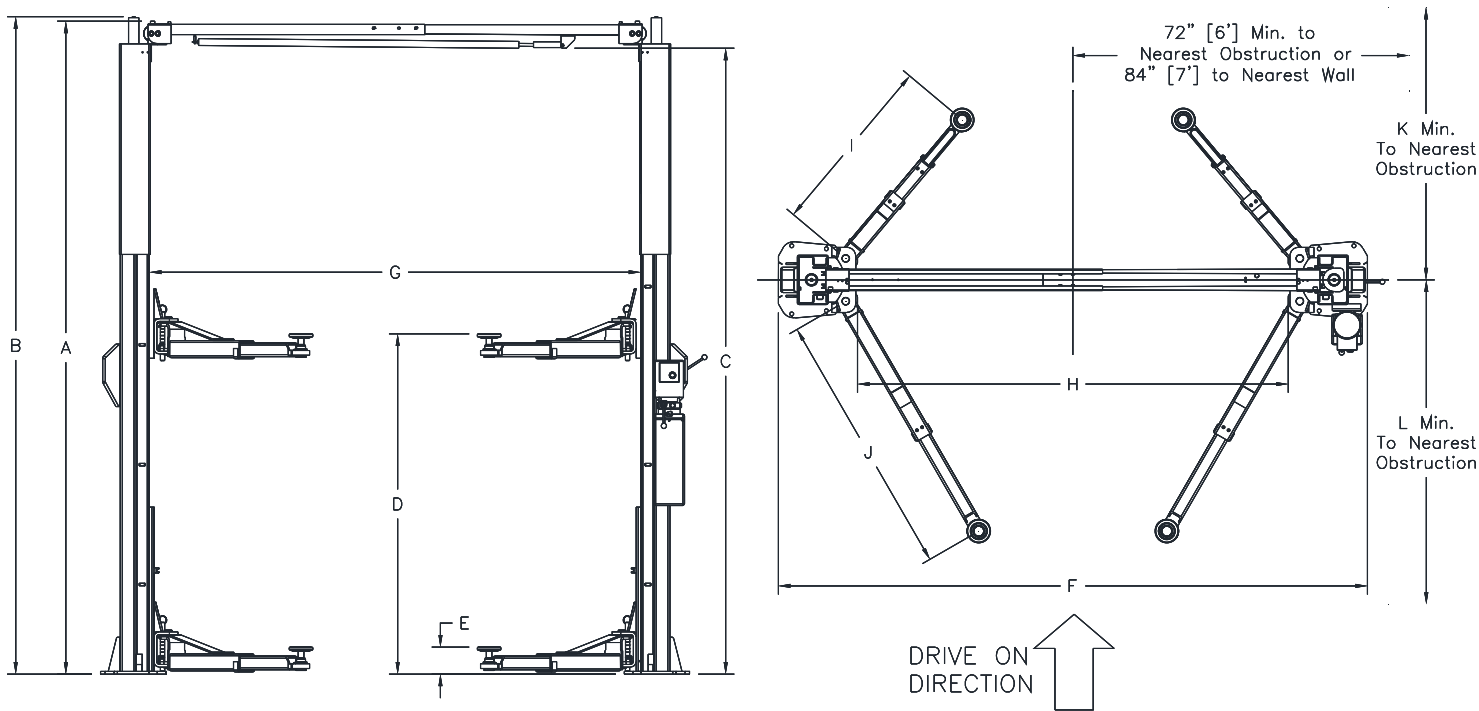
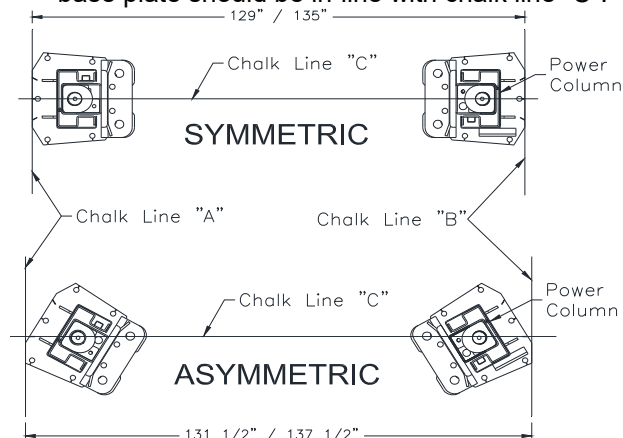

Fig 1 - General Specifications / Service Bay Layout
Fig 4 - Layout
- Layout the service bay according to architect's plans or owners' instructions (**see Fig 1**). **Failure to install in this orientation can result in personal and property damage.** Be certain that the proper conditions exist, see page 3.
- 7) Refer to **Fig 1**. Using the Base Width (D) Dimension, chalk two parallel lines (A & B) on the floor within 1/8" tolerance. Chalk a third line (C) perpendicular to lines A & B to designate fore and aft location. Erect both Column assemblies. Align the base plate edges to the chalk lines as seen in **Fig 4** below. Slots in front and back of base plate should be in-line with chalk line "C".
- 8) Recheck "Inside of Columns" dimension (**Fig. 1**).